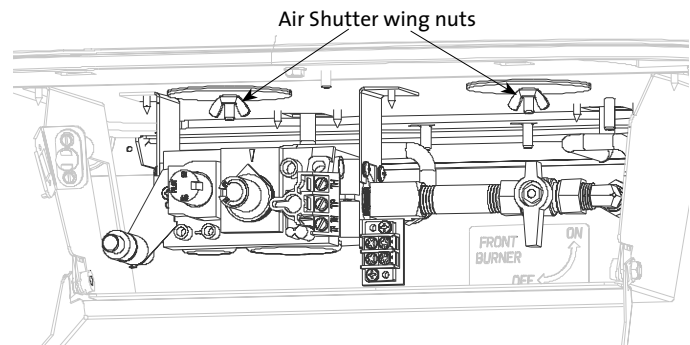

Figure 5.1. Air Shutter wing nuts are accessed from within the control compartment.
4. **REMOVE THE BURNER:** First remove both air shutter wing nuts, washers, and gaskets from the studs underneath the firebox. Pull the studs all the way forward. See fig. 5.1.